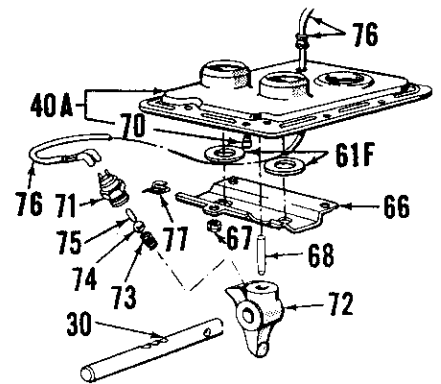

Fig. 200-Exploded view of late production pressed steel shift cover assembly. Refer to Fig. 199 for cast iron cover.
1.320 on models with cast iron cover (10). Tighten safety switch retainer, roller support and shift lever stop plate cap screws to a torque of 14-17 Ft.-Lbs. When reinstalling cover, install dowel cap screw without a washer in left rear corner of cover and install cap screws with lockwashers in remaining holes. Tighten dowel cap screw first, then tighten remaining cap screws to a torque of 23-29 Ft.-Lbs. Be sure that engine starter can be engaged only when main gear change lever is in neutral position.
On late production transmissions, unbolt and lift shift cover assembly, then disconnect wiring (76—Fig. 199 or 200) from starter safety switch (71), then remove shift cover from transmission. The starter safety switch can now be serviced at this time. Other than components shown in Figs. 199 or 200, shift lever assemblies are same as shown in exploded view in Fig. 198. When reinstalling cover, be sure that dowel pin (70—Fig. 199 or 200) and switch retainer locating pin 69—Fig. 199 or 68—Fig. 200) are in place and reconnect wiring to starter safety switch. Be sure dowel pin and retainer locating pin properly engage shift cover as it is being lowered into place. Tighten cover retaining cap screws to a torque of 23-29 Ft.-Lbs. Be sure that starter will engage only when high-low shift lever is in neutral position.